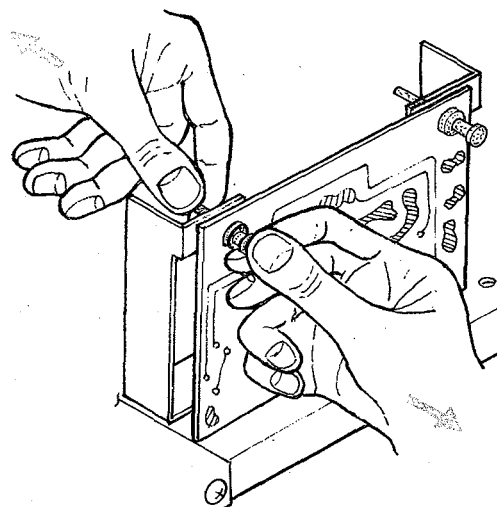

Fig. 2-6 Rubber clamp removal
2. All PCB's except the tone control board are extracted by removing the two rubber clamps securing them to the chassis. Stretch the rubber clamp in both direction with your fingers, then pull it out as shown in Fig.2-6.